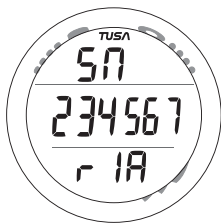

Fig. 51 - SERIAL NUMBER
- Depressing the A and S buttons simultaneously for 8 seconds while viewing the NORM (or GAUG) Surface Main screen will access the Serial Number screen displaying (Fig. 51):